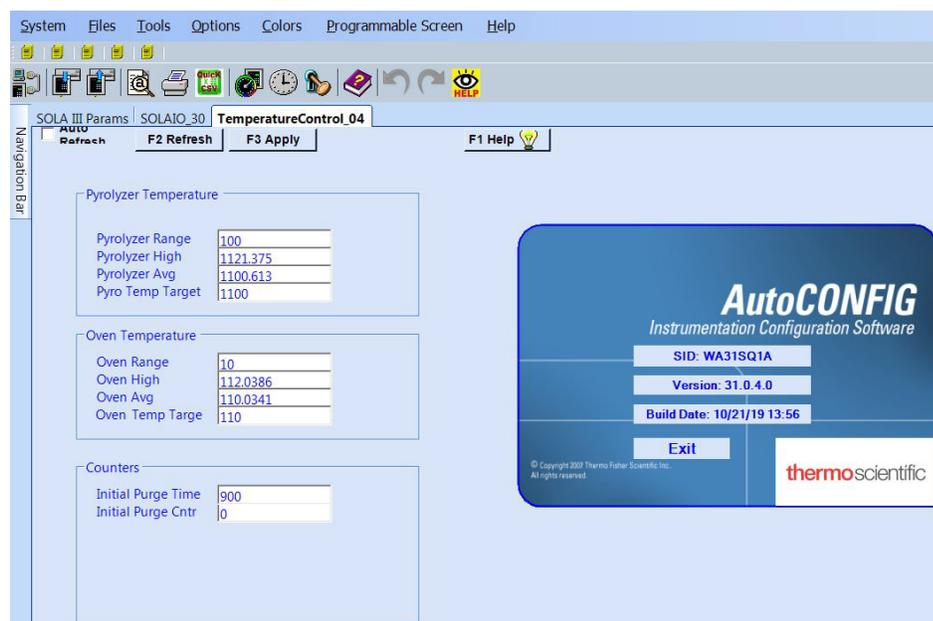

Figure 4–14. AutoCONFIG Version Screen
In addition to the pre-configured SOLA iQ AutoCONFIG page short cuts, one can access the pre-configured pages, as well as other AutoCONFIG functions, using the Navigation Bar. The Navigation Bar is located on the left hand side of each pre-configured page. The five (5) major Navigation Bar categories are as follows: (See Figure 4–15)
1. Physical Data Point(s) (Figure 4–16)